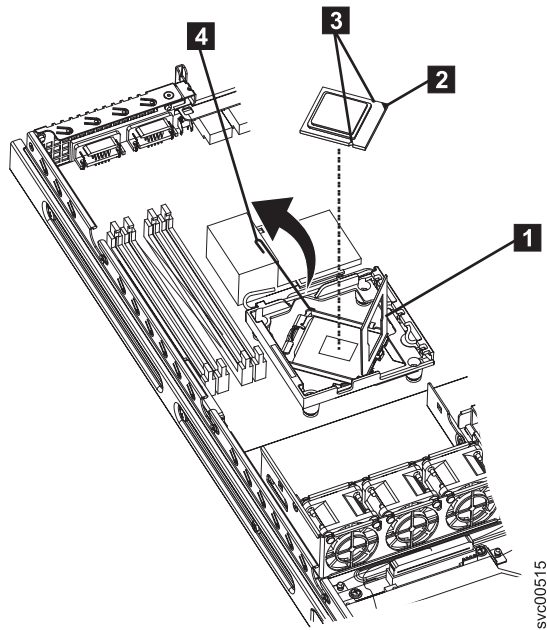

Figure 266. SAN Volume Controller 2145-8A4 microprocessor
1. Make sure that the microprocessor bracket frame **1** and release latch **4**, shown in Figure 266 on page 265, are both fully open.
2. Align the microprocessor with the socket as shown in Figure 266. (Note the alignment mark **2** and the position of the notches **3**.)